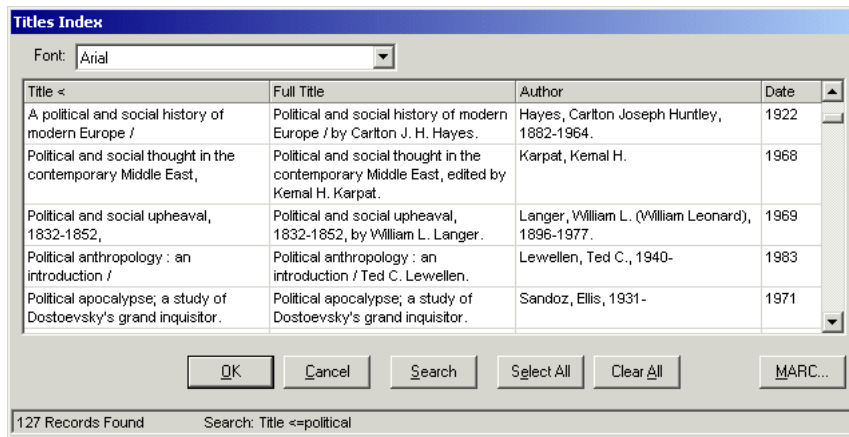

Figure 13-6. Title Index dialog box - MARC button displayed
- The **MARC** button on the **Titles Index** dialog box (Figure 13-6), which displays as a result of any non-Headings search done in Acquisitions. See Titles Index Dialog Box on page 2-56 for more information.